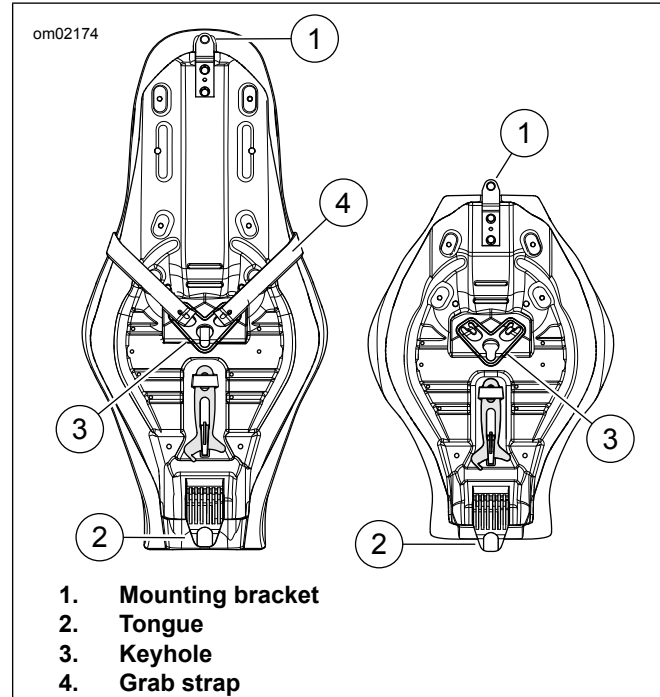

Figure 78. Solo and Two-Up Seats
1. See Figure 78. Position seat on frame with mounting bracket (1) at rear.
2. Slide seat forward until the tongue (2) fits snugly under fuel tank bracket.
3. Push seat forward to engage keyhole (3) onto seat post. Pull seat back slightly.